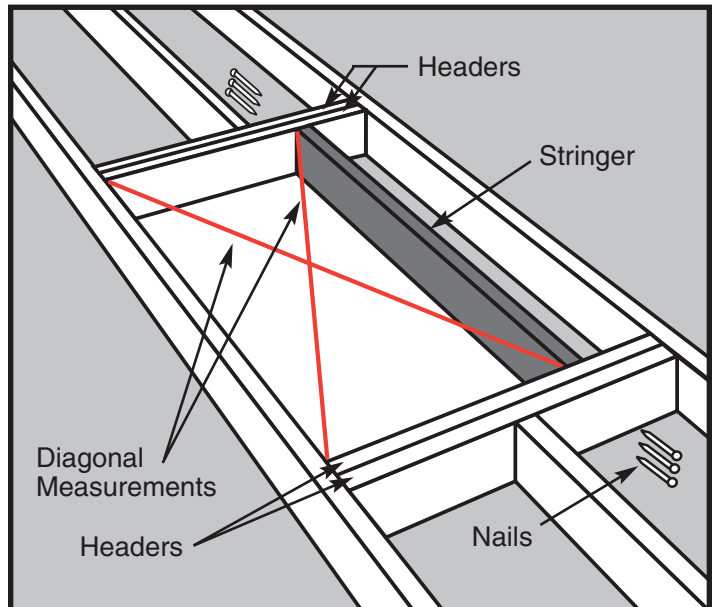

Figure 18
- STEP 4.** Position the stringer(s) along the unframed side(s) of your location (See Figure 18). Check that the inside dimensions of the frame are 25" x 66".
- STEP 5.** To attach the stringer(s) to the headers, use nails that are long enough to go through both headers and into the stringer at least one inch. Square the stringer(s) to the headers at one end and drive (3) 16d nails through the headers and into the stringer.
Check for squareness, then nail the other end. Check the rough opening for squareness by measuring across the diagonals. **The two measurements should be within 1/8" to be considered square** (See Figure 18).